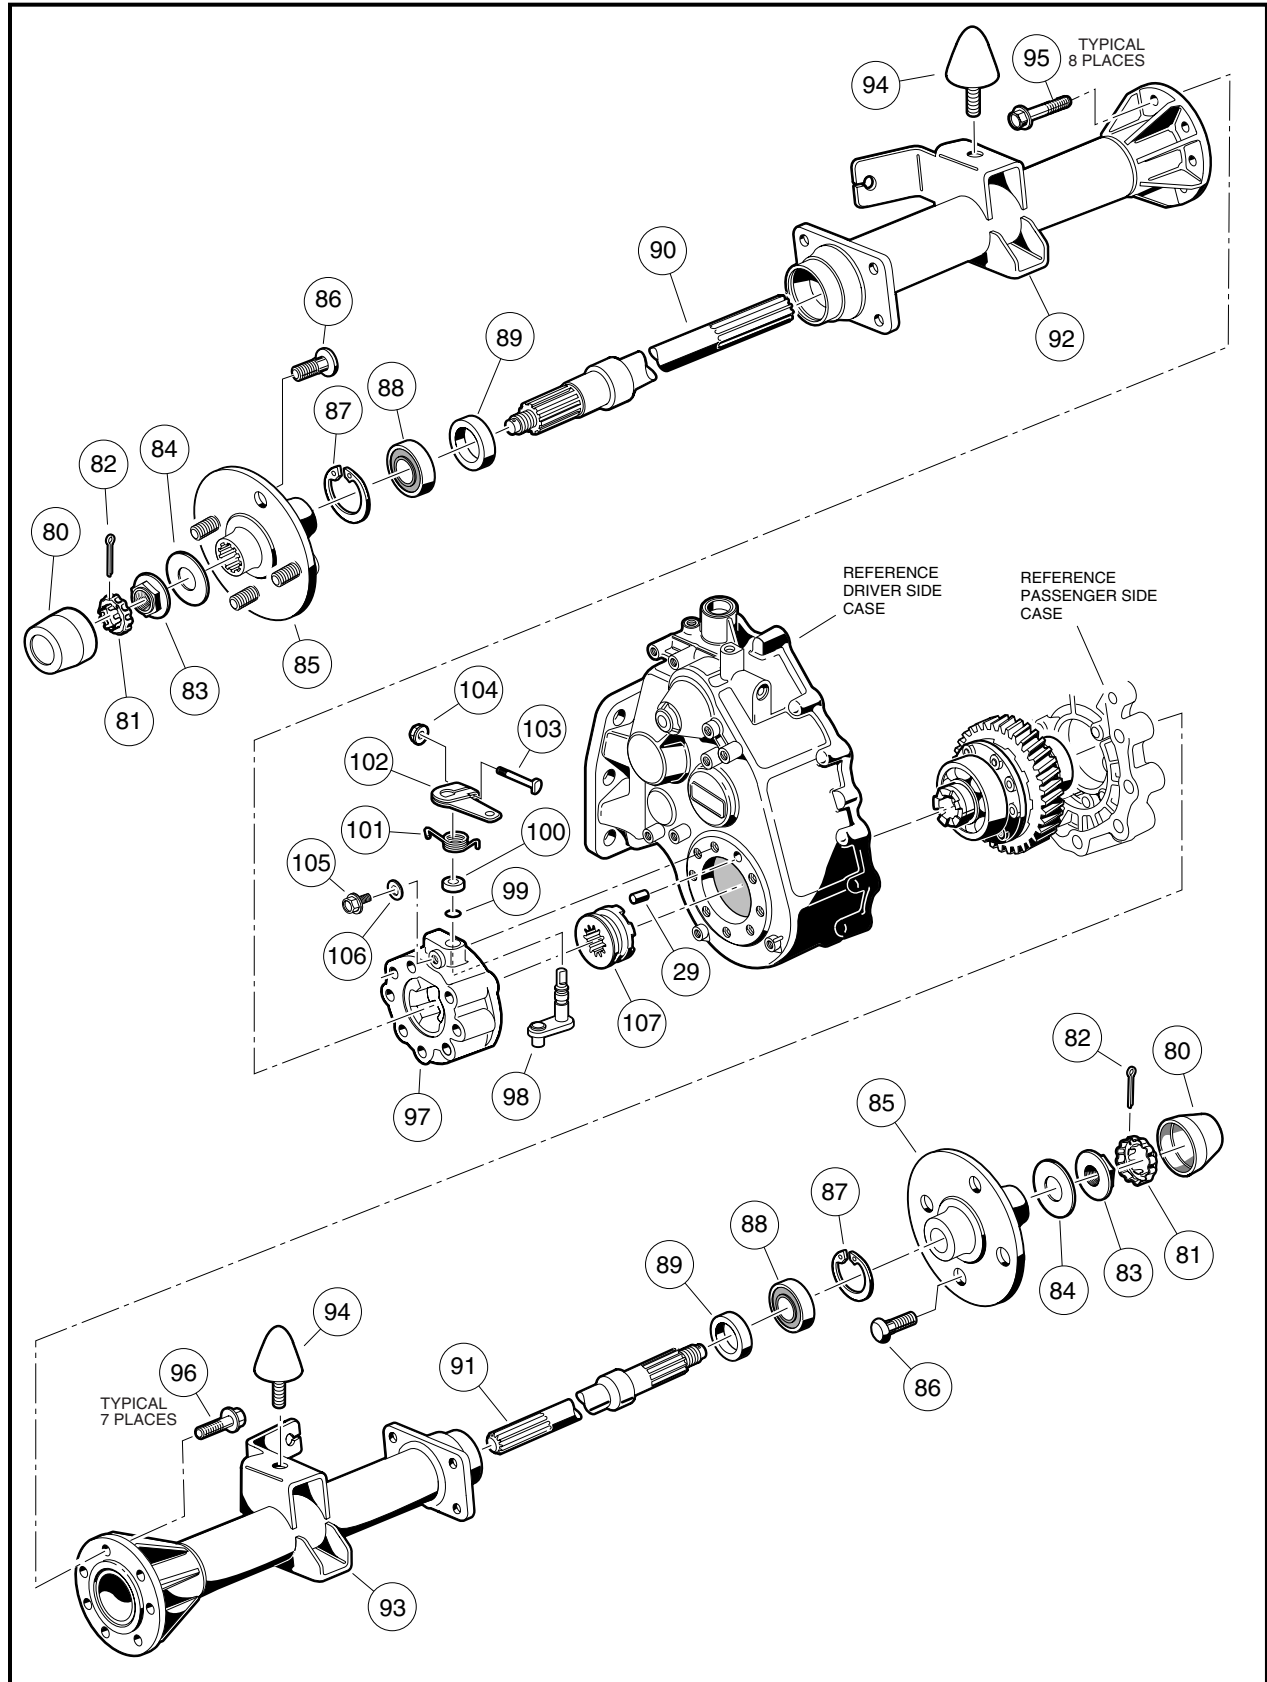

Figure 19-5 Differential Gear Case/Axle Tubes
2. Use a 90° (0.090 tip) internal snap ring pliers, and remove the internal retaining rings from the axle tubes (**Figure 19-5, Page 19-4**).
4. Remove eight bolts (95) and seven bolts (96) mounting each axle tube to the transaxle case. Remove axle tubes from the transaxle case and differential lock housing. **See following NOTE.**